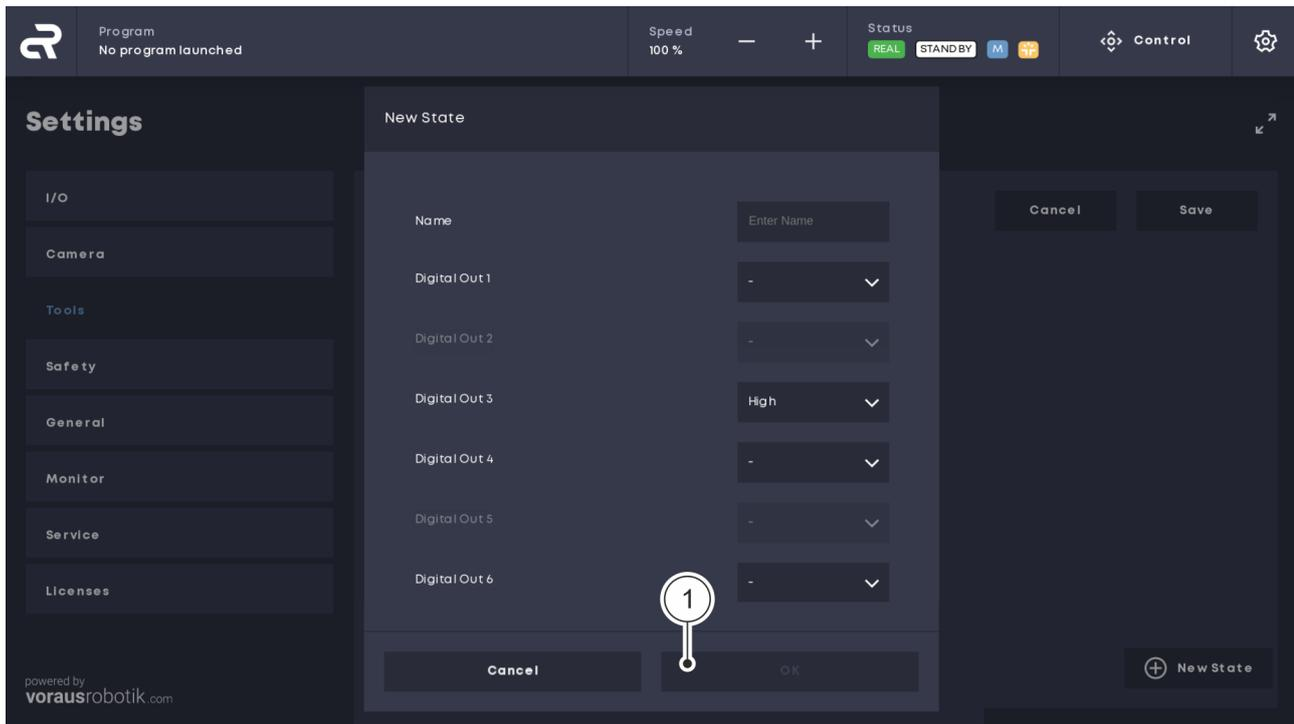

Fig. 22 Defining a status
07. Click the 'New State' button to open the 'New State' menu Fig. 22/
①.
08. In the 'New State' menu, define the states of the digital outputs and the digital input according to the owner's specifications, and confirm with 'OK' Fig. 22/1.